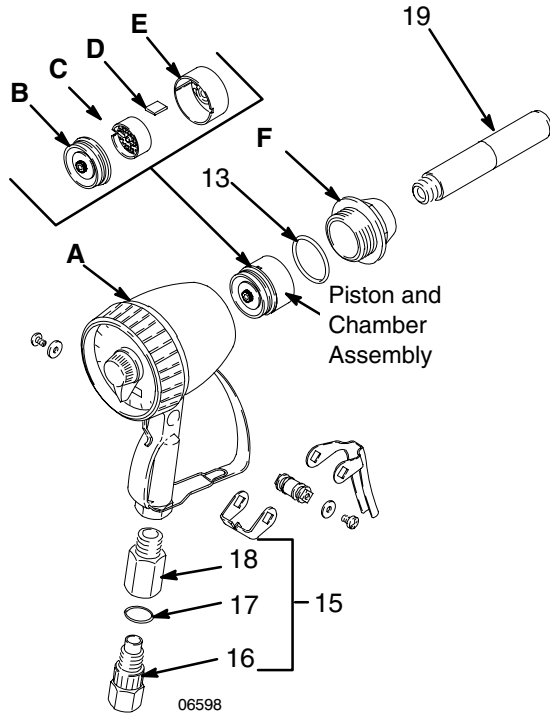

Fig 2
Screw the meter cap (F) out of the housing (A). Remove the o-ring (13), piston and chamber assembly, and the planet gear. See Fig 2.